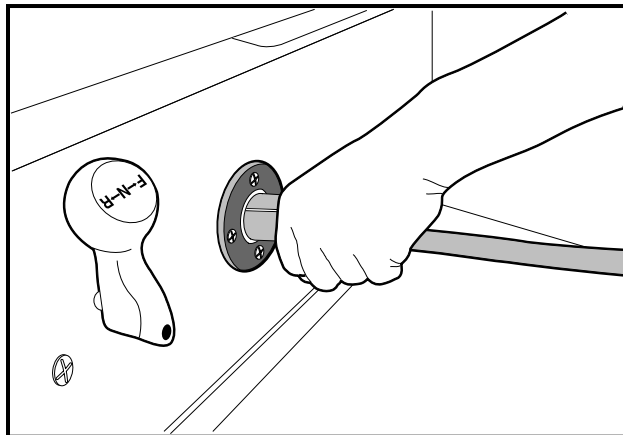

Figure 23 Correct Insertion of Charger DC Plug
- Do not rock or bend the plug. To connect the charger plug to the vehicle receptacle, grasp the plug handle and push the plug straight into the receptacle (Figure 23, Page 39).
Insert the charger DC plug into the vehicle receptacle. The charger will turn on two to ten seconds later (**Figure 23**).